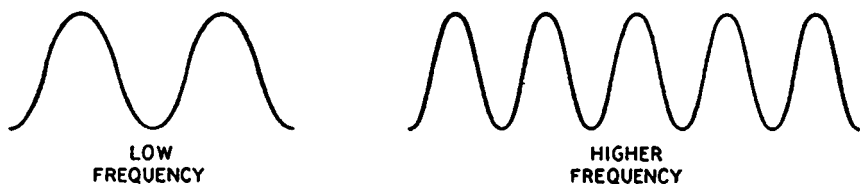

Fig. 1-5. Illustrating frequency.
*Frequency.* Frequency is a measure of the number of vibrations occurring in a given time interval, usually a second. Figure 1-5 is a representation of two waves having different frequencies, although their intensities in this case are the same. Notice that the wave at the left of the figure completes just half as many vibrations in a given time as does the one at the right. The wave at the right, therefore, has twice the frequency of the one at the left.